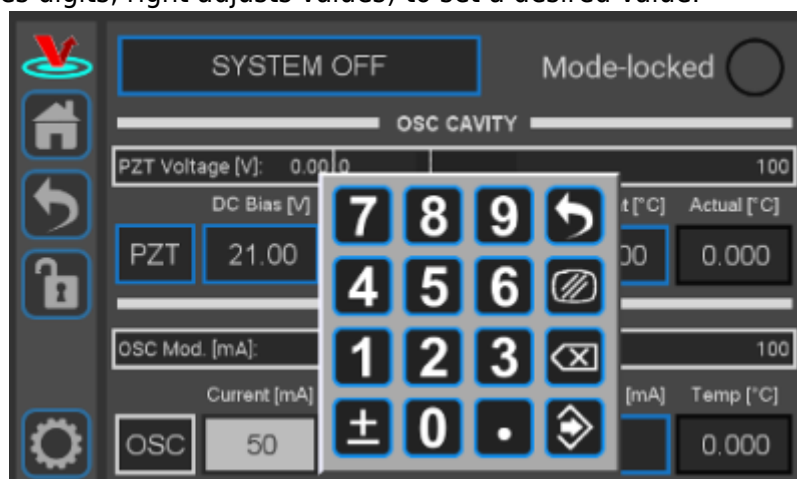

Fig. 8: Adjust oscillator current via keypad
3. If necessary, adjust oscillator current by either holding down the “Osc” touch screen button and typing in a desired set-point (figure 8), or briefly pressing the button and using the two control knobs (left changes digits, right adjusts values) to set a desired value.